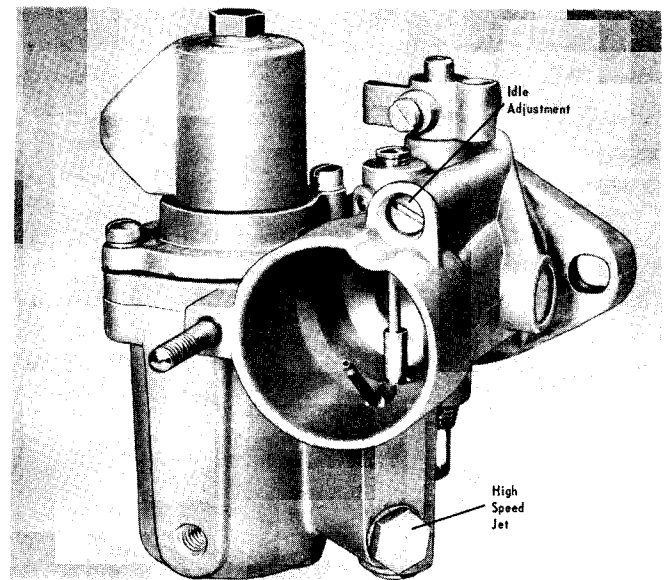

Figure 6. Idle Adjustment
### A. High Speed Adjustment (Figure 6)
### B. Idle Adjustment (Figure 6)
2. Start with all idle needles one turn open and adjust for maximum RPM with distributor retarded to give about 600-700 RPM. (Figure 6)
4. With engine running at idling speed while in forward gear, turn low speed mixture adjusting needle counterclockwise until affected cylinders start to "load up" or fire unevenly due to overrich mixture. (Figure 6)